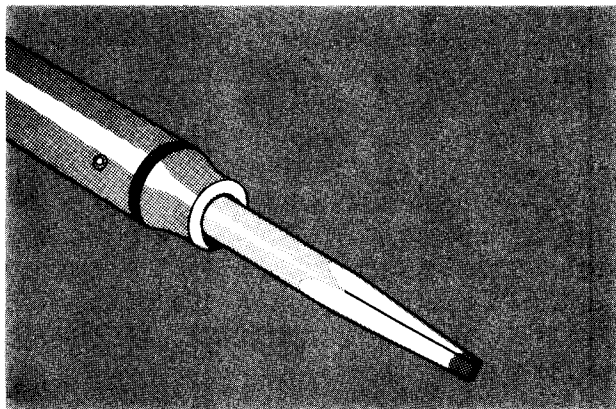

Fig. 4-1. Soldering iron tip properly shaped and tinned.
shaped tip on your soldering iron when you are installing or removing parts from the strips. Fig. 4-1 will show you the correct shape for the tip of the soldering iron. Be sure and file smooth all surfaces of the iron which will be tinned. This prevents solder from building up on rough spots where it will quickly oxidize.
2. Prepare the tip of the iron as shown in Fig. 4-1.